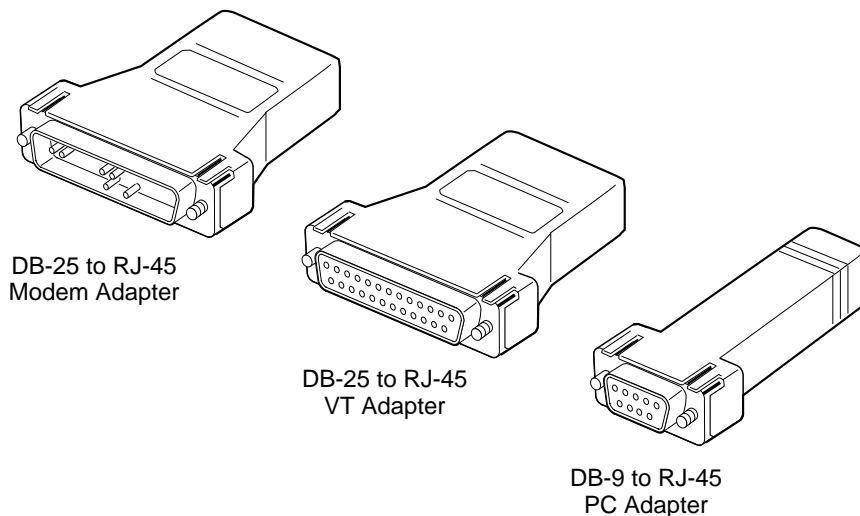

Figure 2-4 Adapters provided for connecting to the switch
3. Based on your choice in 1, above, plug one end of the supplied RJ-45 UTP cable into the appropriate RJ-45 adapter (see Figure 2-4)